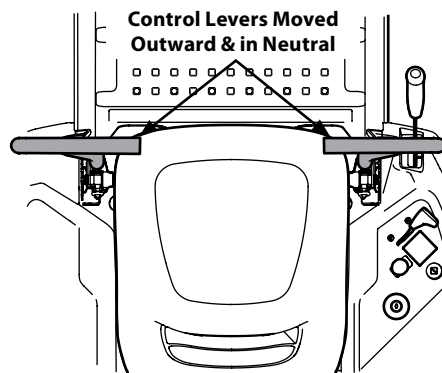

Figure 3-2
1. Operator must be sitting in the tractor seat with the drive control levers fully outward in neutral (parking brake on). See Figure 3-2.